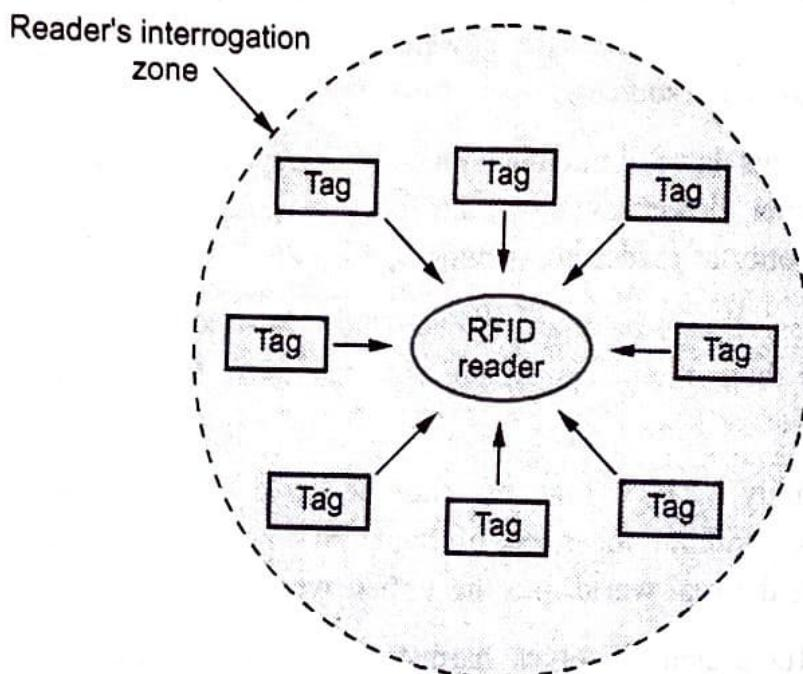

Fig. Q.2.1 Tag collision problem
- RFID readers must use an anti-collision protocol to minimize collisions and hence help reduce identification delays. Fig. Q.2.1 shows tag collision problem.